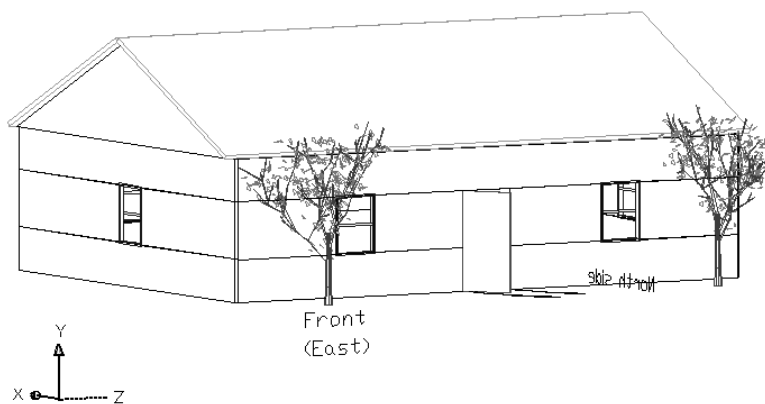

Figure 22-14: The final view of the house
13. Choose View ⇨ Named Views on the Named Views tab and click New. In the New View dialog box, type the name of the view, **walk up**. Click OK. Click OK again to return to your drawing. It should look like Figure 22-14.